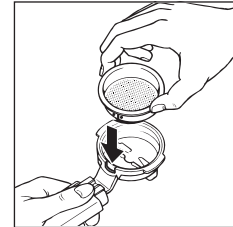

fig. 7
1. After preheating the appliance, the machine is ready to be used. Insert the ground coffee filter with crema enhancer into the filter holder, making sure the tab is correctly inserted into the housing as shown in fig. 7.